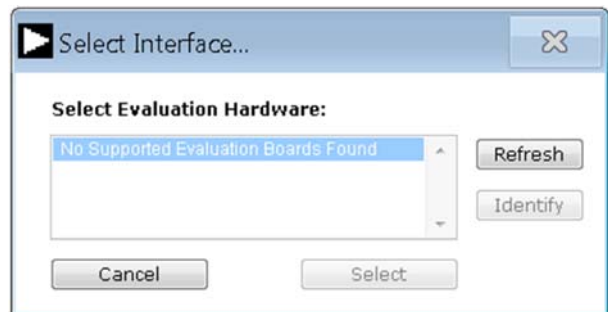

Figure 11. Select Interface ... Dialog Box
2. If the EVAL-AD7606BFMCZ evaluation system is not connected to the USB port via the EVAL-SDP-CH1Z (SDP-H1) board when the software launches, the **Select Interface...** dialog box appears (see Figure 11). Connect the EVAL-AD7606BFMCZ to the USB port of the PC, wait a few seconds, and then click **Refresh** to rescan the USB ports. When the connection is established, the **AD7606BFMCZ Evaluation Board** lists in the box. Then, click **Select** to proceed or **Cancel** to exit the software.